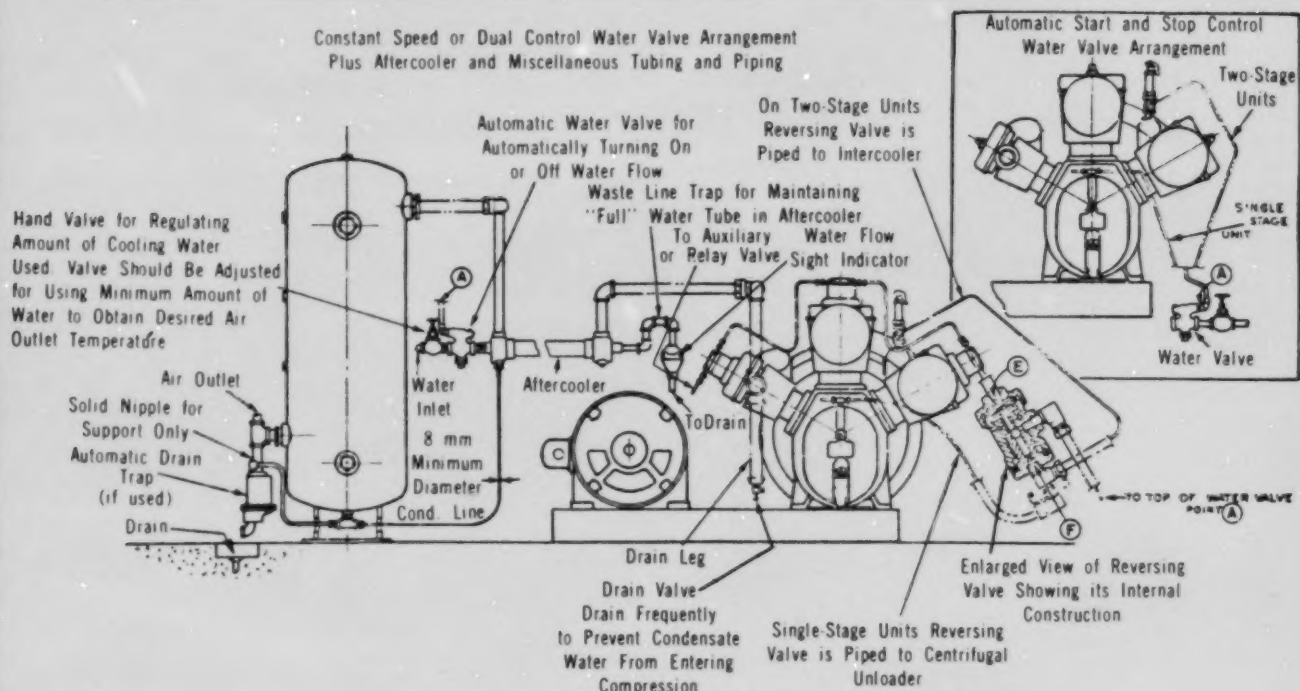

Figure 32-8. Typical Detailed Piping Arrangement for Base-Mounted Units
14. *Accessory Piping.* Typical accessory-piping arrangements for both receiver-mounted and base-mounted units are shown in Figures 32-8 and 32-9. These diagrams include a water-cooled aftercooler, an automatic water shut-off valve, and an automatic condensate drain trap. These diagrams are representative and show only relative positions. Actual positioning would be made to suit the installation.
Mount the aftercooler as close to the air receiver as possible, using pipe of the same diameter as that for the compressor outlet if the total length is less than 3 m. If it is longer, use the next-larger-diameter pipe. The aftercooler must be rigidly supported from the ceiling or wall. Discharge piping to the aftercooler should preferably load (slope) down, but if overhead piping is used a drain leg to trap condensed moisture should be mounted next to the compressor, as illustrated in Figure 32-8. An automatic drain valve can be fitted, or draining of condensate may be done manually.